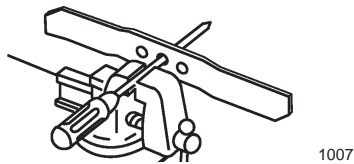

Figure 28
1. Check the balance of the blade by placing the center hole of the blade over a nail or screwdriver shank clamped horizontally in a vise (Fig. 28).